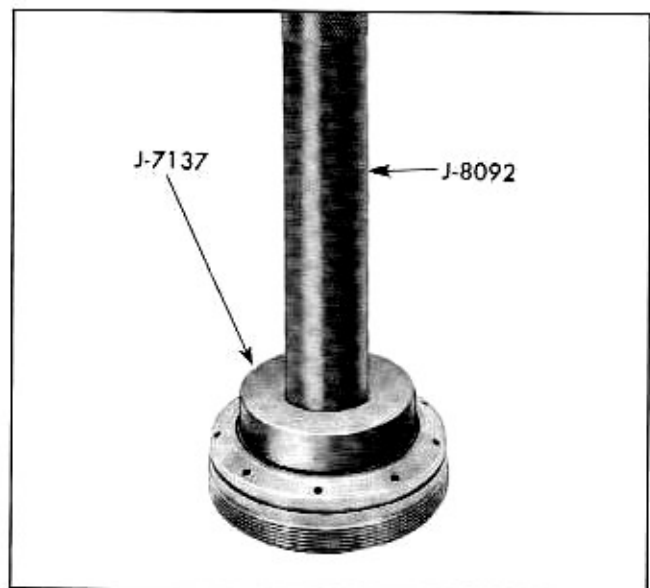

Fig. 4-50 Tool Positioned to Install Front Pinion Bearing Outer Race
1. Install front bearing race in nut using tool J-7137 with J-8092 handle (Fig. 4-50).